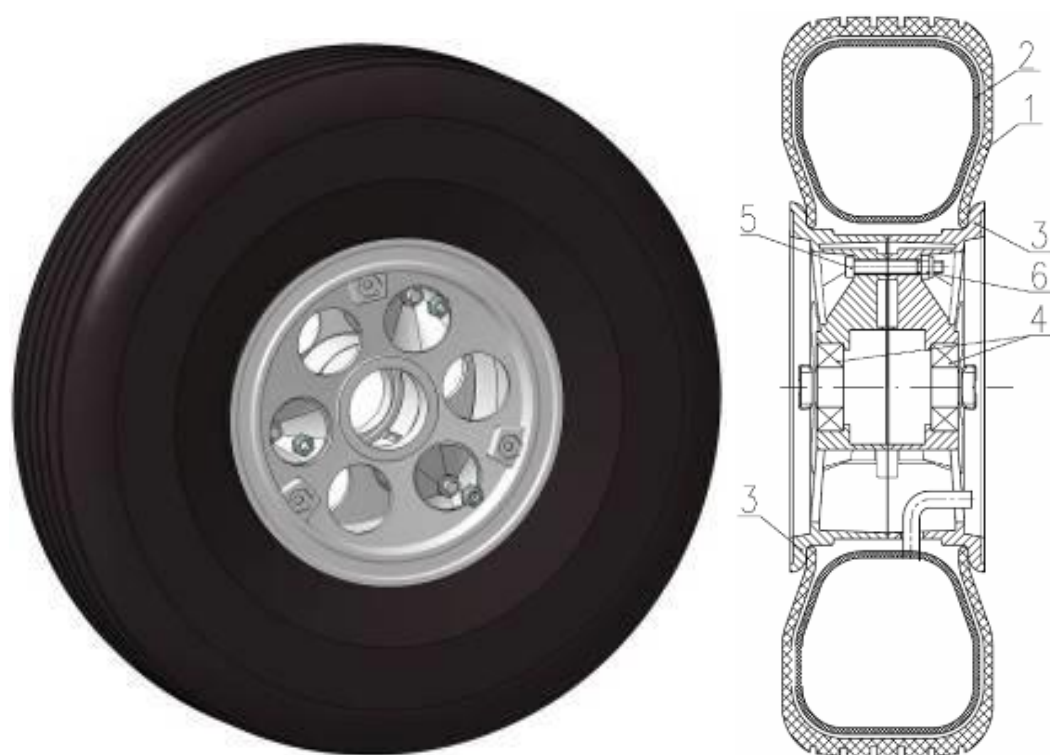

Fig. 32-20-6
B. Tire and Tube Check and Replacement (Fig. 32-20-6)